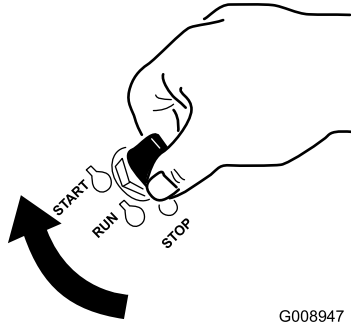

Figure 20
1. Turn the key to the START position (Figure 20).